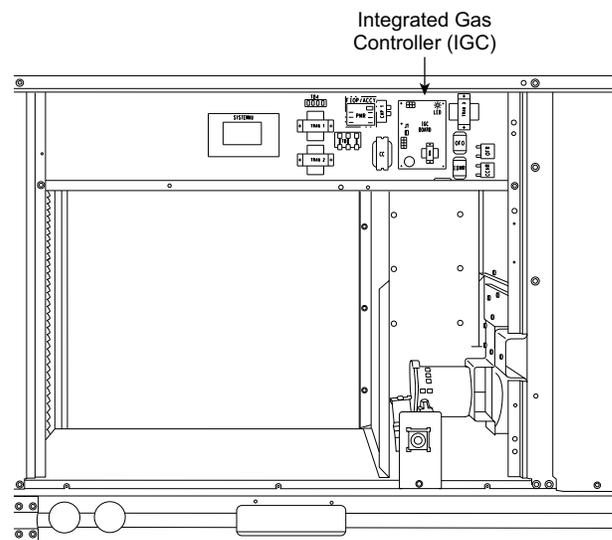
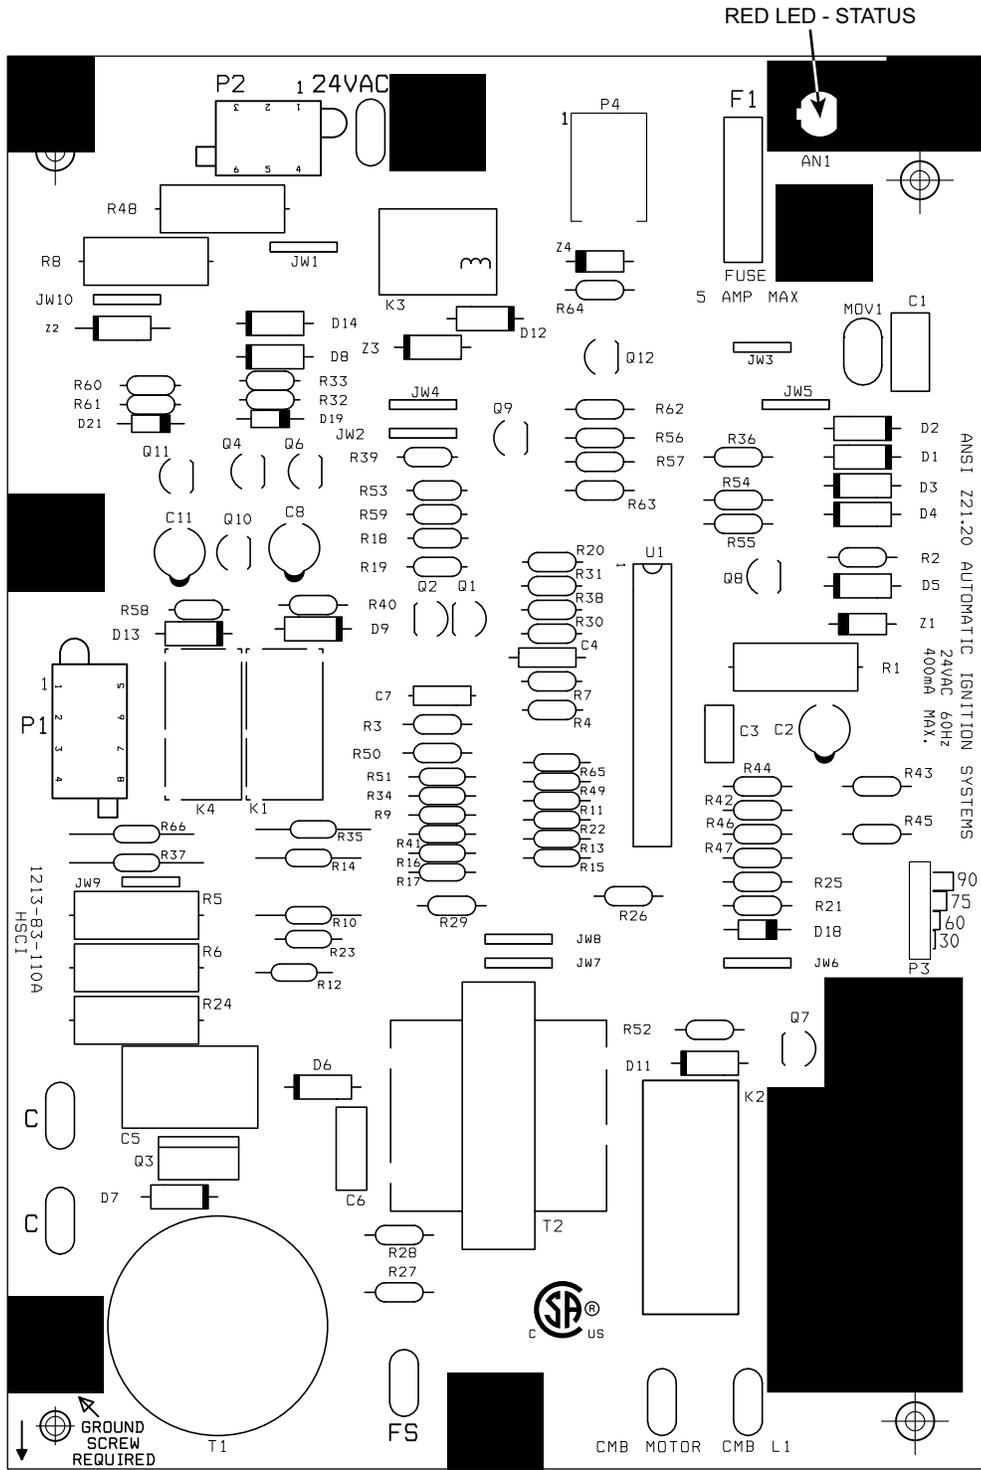
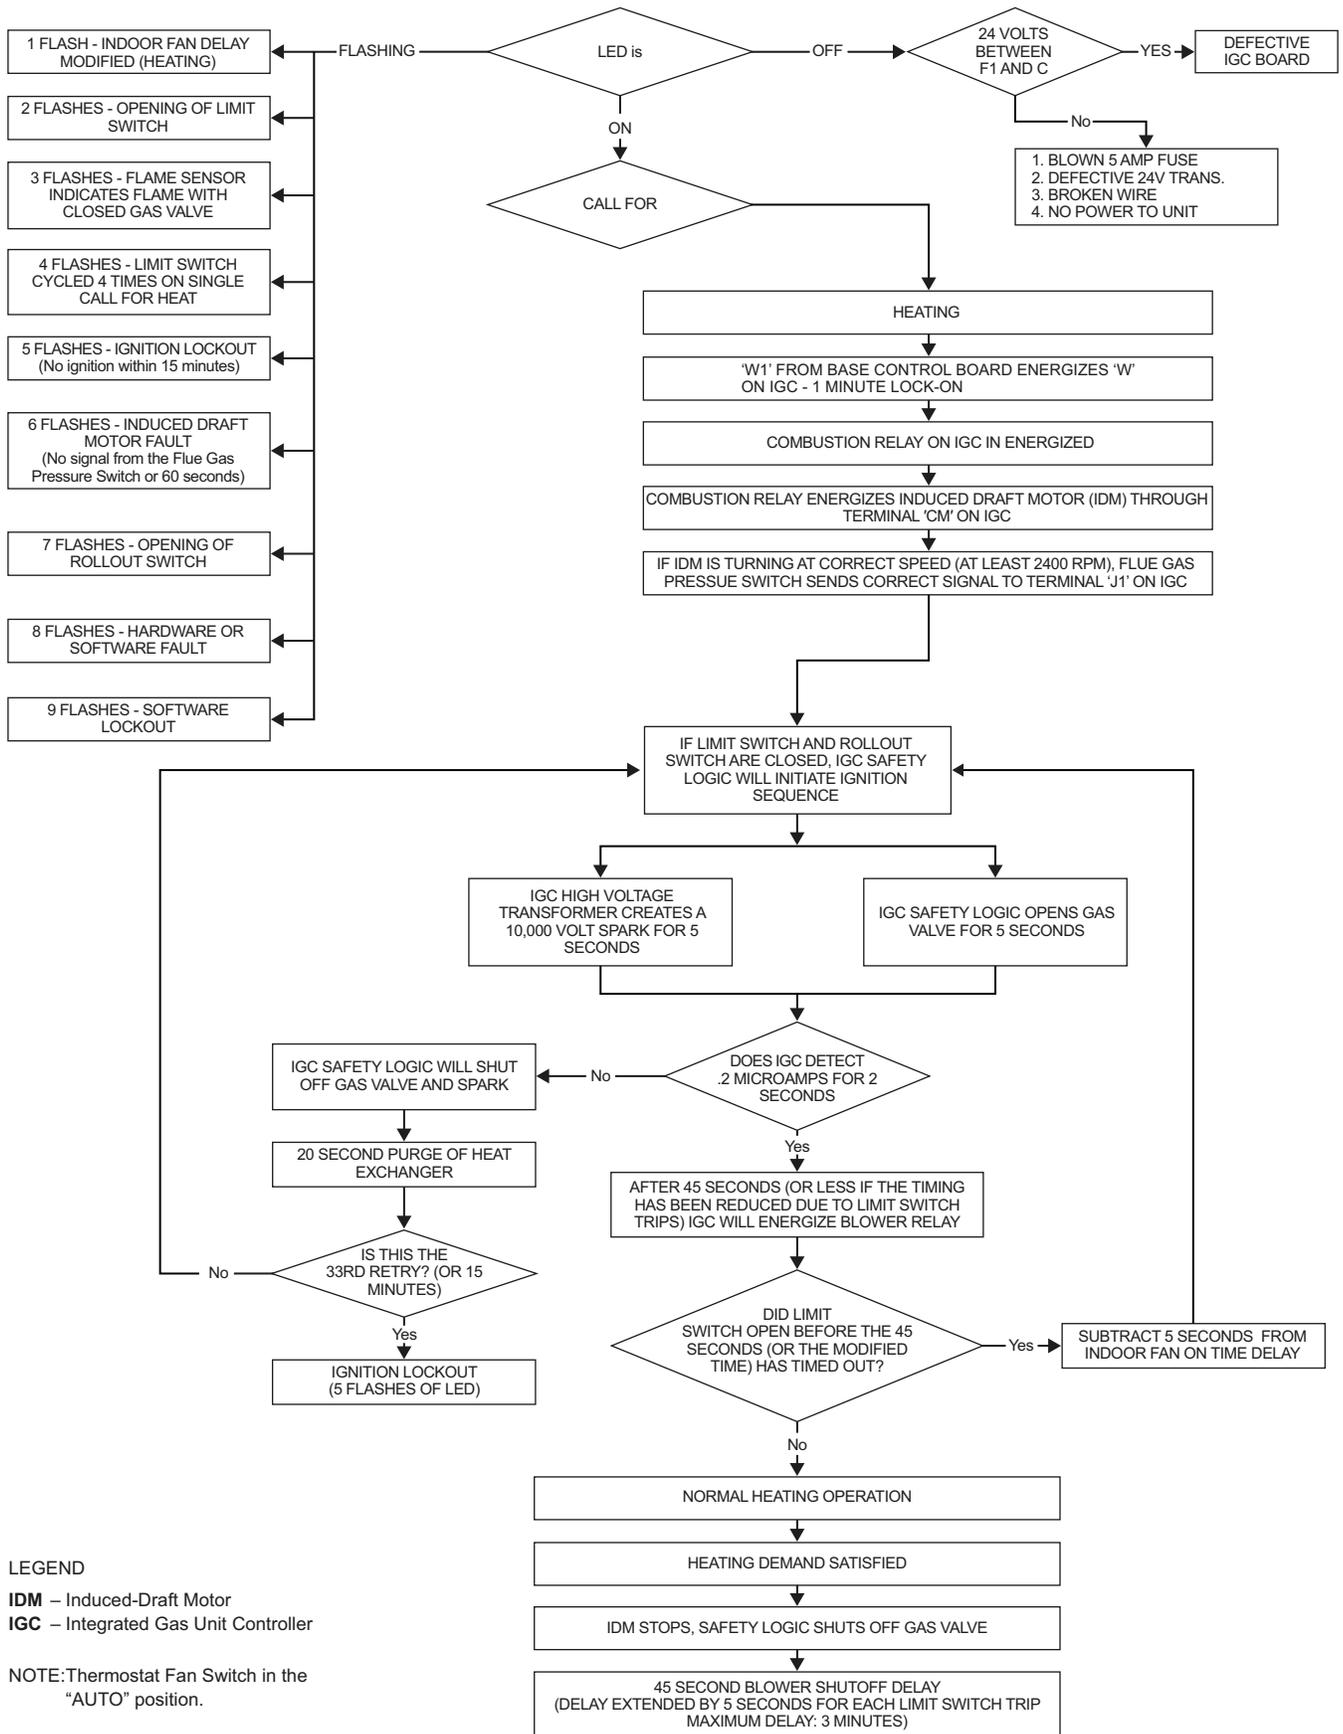
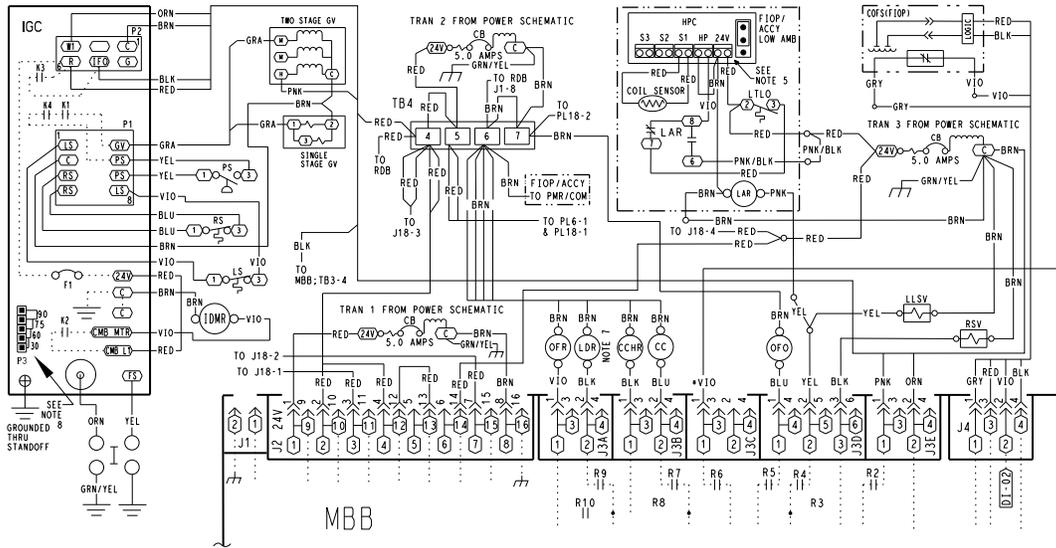

Fig. 39 — Unit Control Box/IGC Location
Fig. 42 – Integrated Gas Control (IGC) Board
Fig. 43 – IGC Service Analysis Logic
Fig. 44 — Typical IGC Control Wiring Diagram
8. Remove igniter wires and sensor wires at the Integrated Gas Unit Controller (IGC). (See Fig. 39.)
Unit is equipped with a direct spark ignition 100% lockout system. The Integrated Gas Unit Controller (IGC) is located in the control box (see Fig. 39). See Fig. 44 for typical IGC board wiring diagram. The IGC contains a self-diagnostic LED (light-emitting diode). A single LED (see Fig. 42) on the IGC provides a visual display of operational or sequential problems when the power supply is uninterrupted. Figure 43 provides an overview of the IGC Service Analysis Logic. When a break in power occurs, the IGC will be reset (resulting in a loss of fault history) and the indoor (evaporator) fan ON/OFF times will be reset. The LED error code can be observed through the view port. During servicing, refer to the label on the control box cover or Table 11 for an explanation of LED error code descriptions.